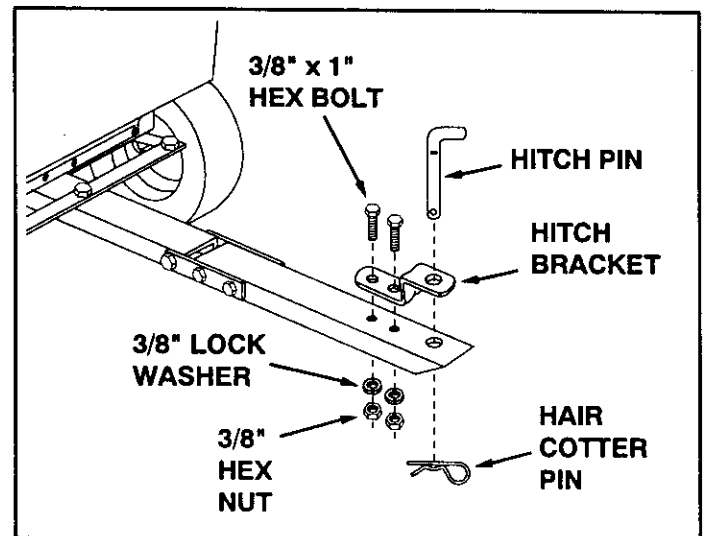

FIGURE 16
- Assemble the hitch bracket to the front tongue section using two 3/8" x 1" hex bolts, 3/8" lock washers and 3/8" hex nuts. **Tighten.** See figure 16.
- Assemble the hitch pin through the hitch bracket and the tongue and secure with the hair cotter pin as shown in figure 16.